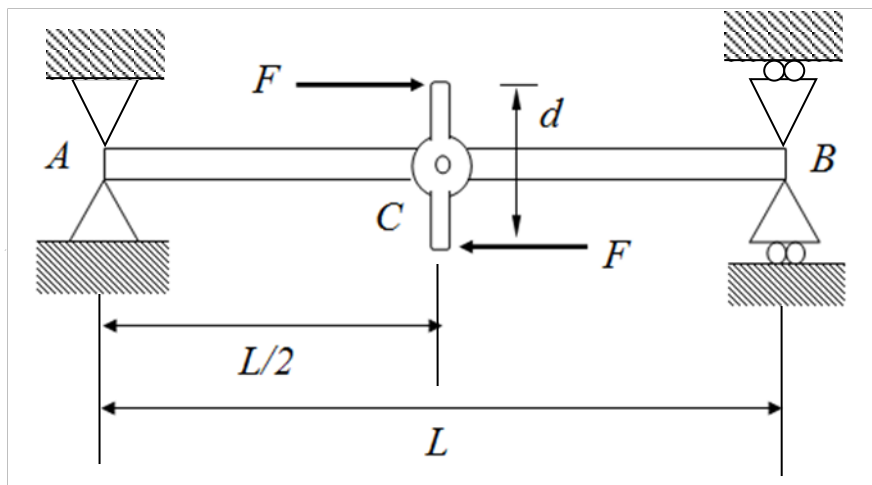

Fig. Q2
2. A simply supported beam is subjected to a point moment couple at the centre of its span, as shown in Fig. Q2. The beam is made from material with a modulus of elasticity E and a second moment of area I .